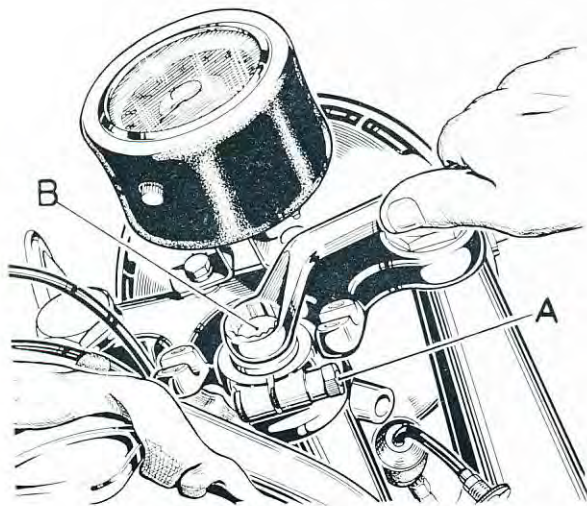

FIG. E1. *Steering head adjustment.*
To adjust the steering, slacken off the pinch bolt (A) and the two bolts on the bottom yoke and using a spanner, screw the nut (B) in (clockwise) to reduce steering play or out (anti-clockwise) to increase steering play (see Fig. E1).